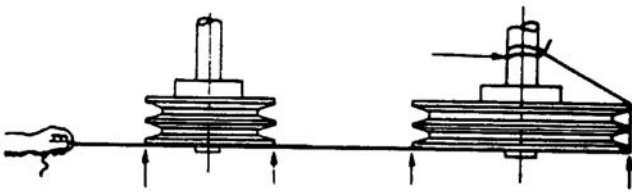

Figure 4-6. Pulley Alignment
2. Tie a string to the drive shaft and pull taut across the pulleys. If the pulleys are properly lined up, the string will touch them at the points indicated by the arrows. By rotating each pulley through one-half revolution, you can also determine whether pulley is wobbly or the drive shaft is bent. If either of these conditions exists, the inner rim of the pulley will pull away from the string when the pulley is rotated. See Figure 4-6.